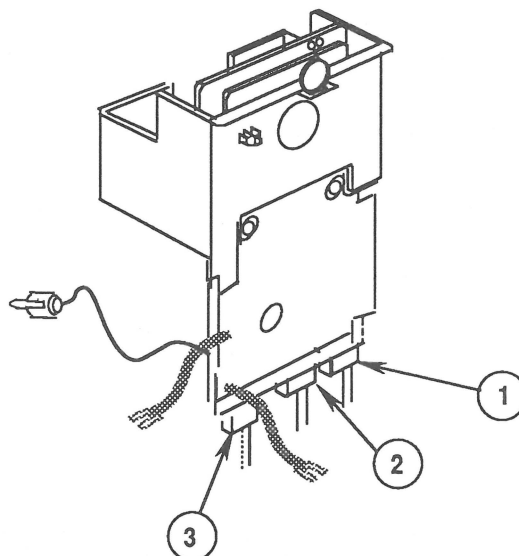

FIGURE 30
- 4-wire connector labeled **O** (Figure 30, #1)
- 4-wire, 2-pin connector labeled **T** (Figure 30, #2)
- 5-wire connector labeled **D** (Figure 30, #3)